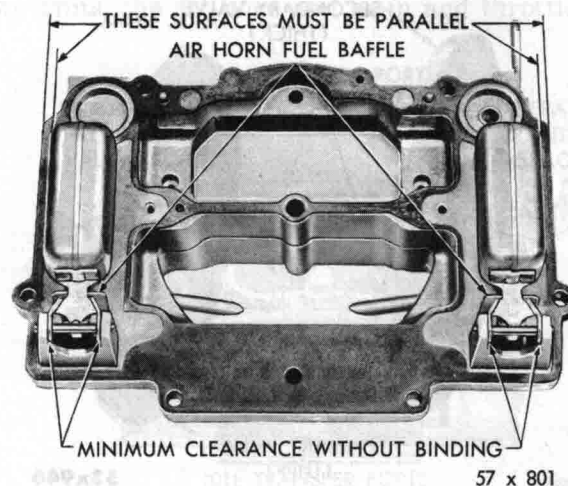

Fig. 66—Checking Float Alignment
(1) Sight down the side of each float shell to determine if the side of the float is parallel to the outer edge of the air horn casting, as shown in Figure 66.
(2) If the sides of the float are not in alignment with the edge of casting, bend the float lever by applying pressure to the end of the float shell with the fingers while supporting the float lever with the thumb.
(3) After aligning the floats, remove as much clearance as possible between the arms of the float lever and the lugs on the air horn. To do this, bend the float lever. The arms of the float lever should be parallel as possible to the inner surfaces of the lugs or the casting.